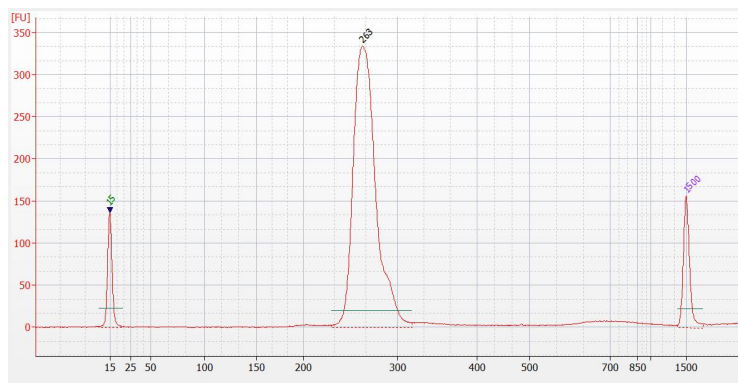

Figure 2 Diagram of the quality control of the library on Agilent 2100 Bioanalyzer DNA1000 Chip Reagent
- 2) DNA fragment QC: Quantify the DNA library fragment size using Agilent 2100 Bioanalyzer System and Agilent DNA 1000 Kit, the main peak of the DNA fragment size should be at 230~330 bp, as shown in Figure 2.